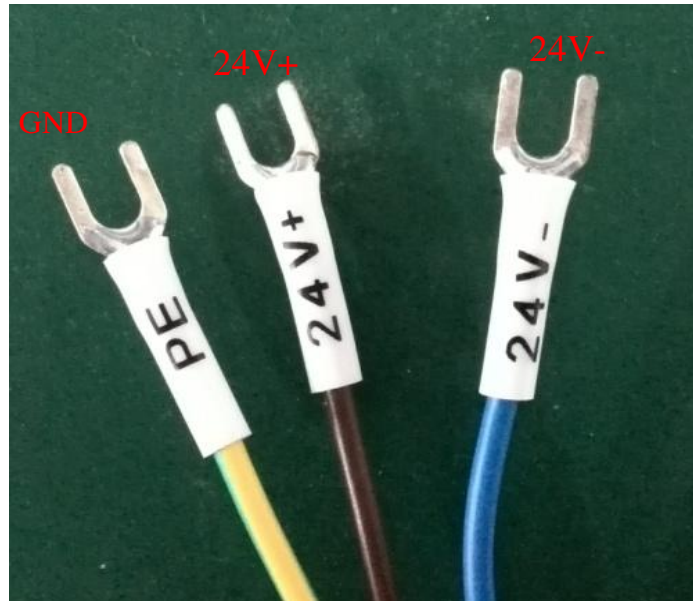

Figure 3. Definition of power line wires
- b) Connect the power line to 24VDC power and ensure enough DC output power. Keep it clear to the polarity of the electric current: anode-brown; cathode-blue; PE-yellow and green. The definition figure is shown in Fig. 3.